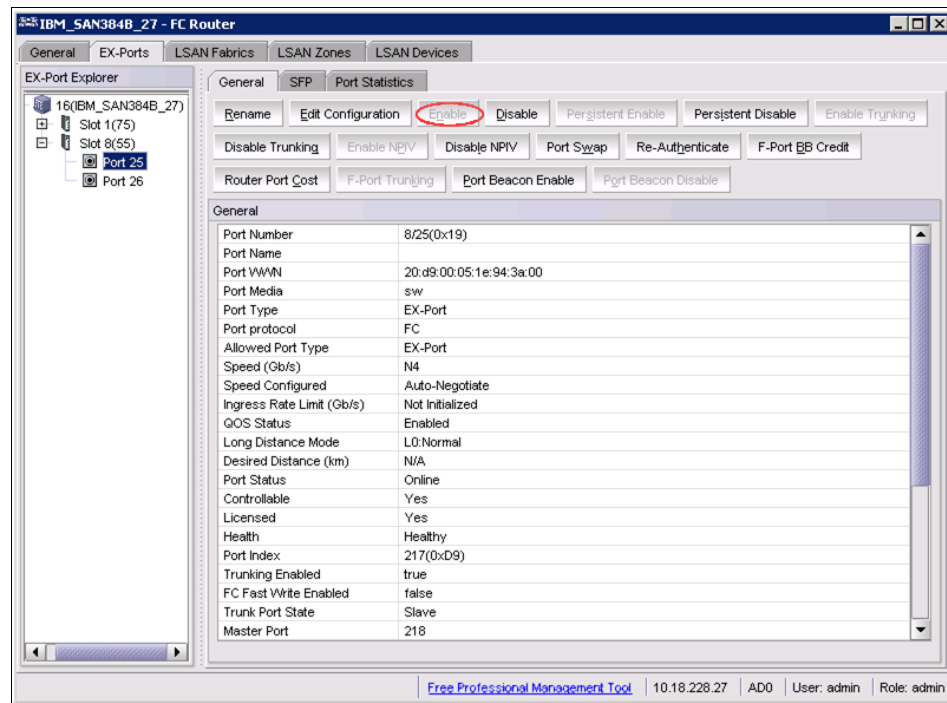

Figure 9-14 Enabling EX\_Port
8. Enable the ports. Click the port number in the list and click **Enable** or **Persistent Enable** in the “EX-Port Information and Configuration” panel. Clicking **Enable** causes the EX\_Port to enter the enabled state and disables the enablement boxes. See Figure 9-14.